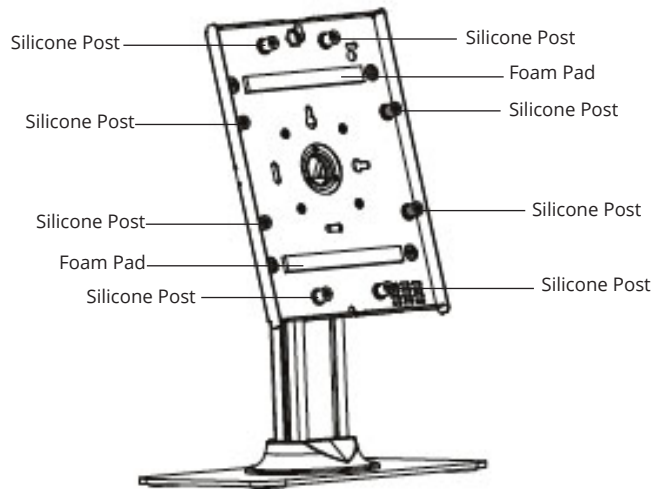

Figure 5A
1. Replace the currently mounted 7mm Foam Pads with the included 5mm Foam Pads, see **Figure 5A**.